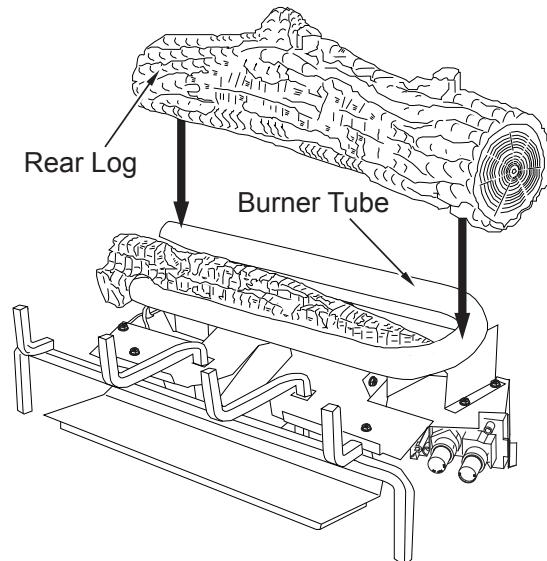

Figure 35 - Installing Rear Log
2. Place the rear log on the base assembly as shown in **Figure 35**. The rear log has grooves in the bottom which will allow the log to sit on the burner and behind the bottom ember log